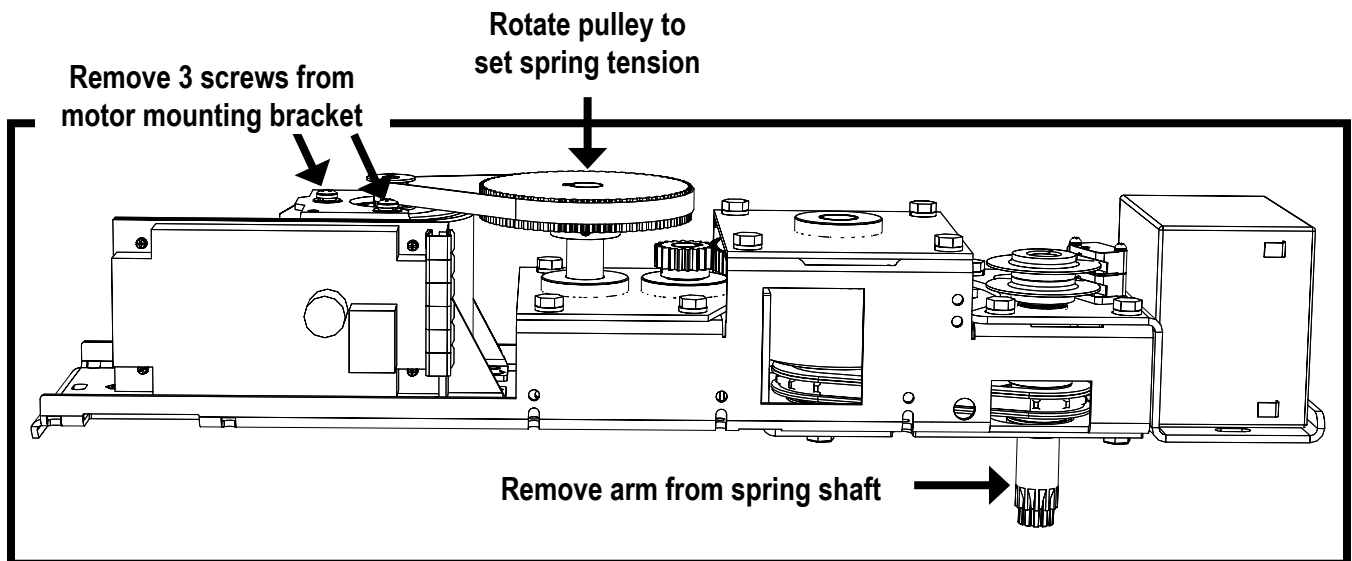

Figure 111 Setting Spring Tension (RH Shown)
- a) **For right-hand operators**, rotate the pulley in a **clockwise** direction to feel a noticeable resistance. Release the pulley, and when it stops rotating, turn the pulley **clockwise** 3 more times and insert a small flat-head screwdriver between the belt and the pulley. Refer to Figure 111.
- b) **For left-hand operators**, rotate the pulley in a **counter-clockwise** direction to feel a noticeable resistance. Release the pulley, and when it stops rotating, turn the pulley **counter-clockwise** three more times and insert a small flat-head screwdriver between the belt and the pulley. Refer to Figure 111.
- c) The operator may have to be removed for this step. If drive belt tension adjustment is required, loosen the three ½” Phillips machine screws from the motor mounting bracket and slide left or right to tighten/loosen the belt around the pulley. Refer to Figure 111.